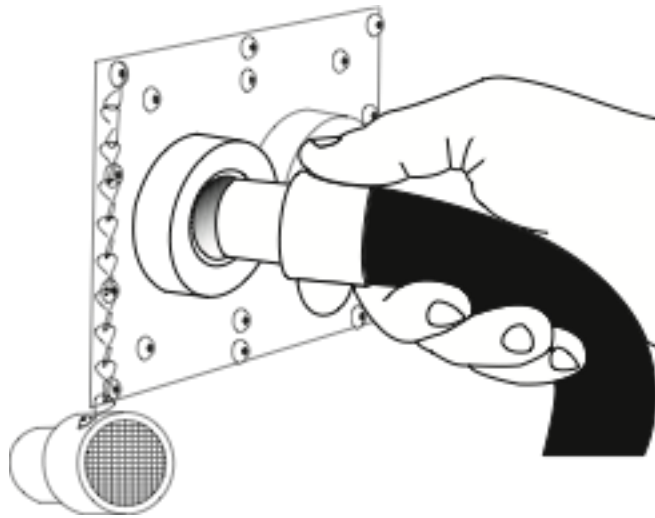

Fig. 5
10. REMOVE THE VENTED (SCREENED) PLUG FROM THE LEFT PORT and plug in the hose as in Fig. 5. If a second hose is needed, remove the solid plug from the right port and plug in the second hose. **NOTE: If a single hose is used, leave the second port closed. Opening the second port will effectively eliminate first port airflow into the Hose (causes hose bypass) and its attached Hood.**